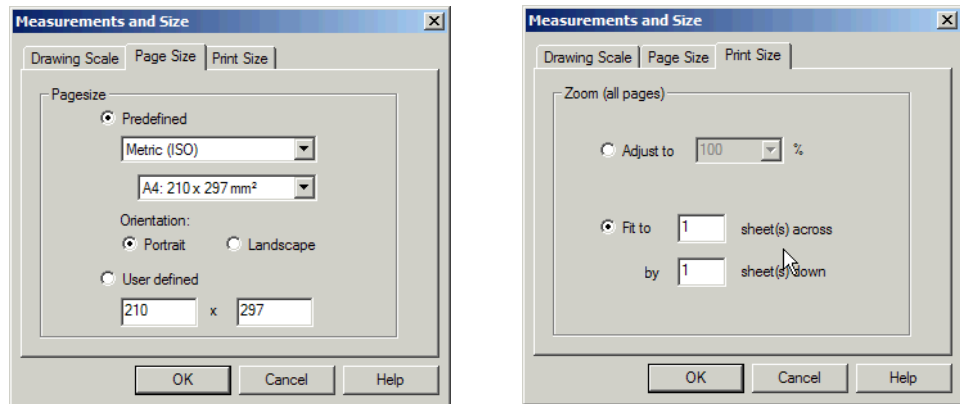

Figure 158. Edit > Measurements and Size Dialog
- a. Invoke the **File > Template** or **Edit > Measurements and Size** command in order to check the diagram page size, see Figure 158.
- b. In cases that the diagram page size (e.g. A3 landscape) differs from the printer page size (e.g. A4 landscape), select Fit to sheet(s) in Figure 158.